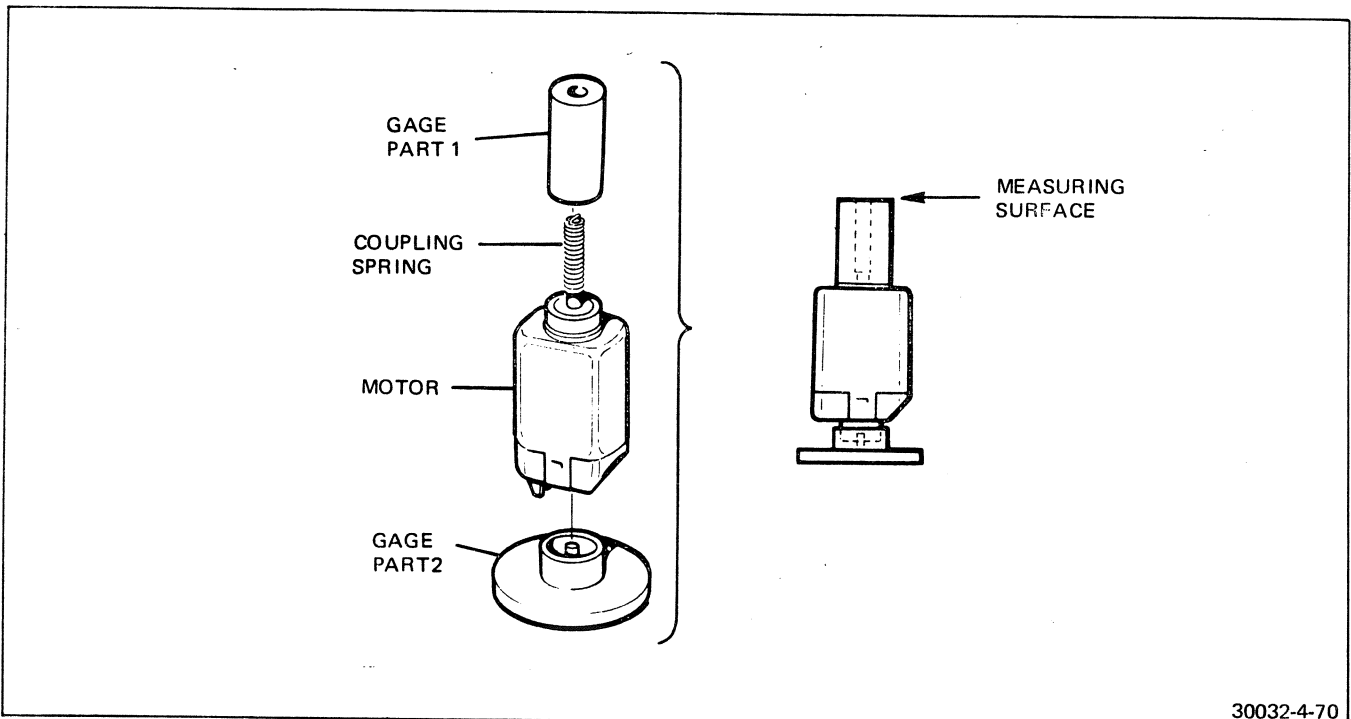

FIGURE 4-70 FLEX COUPLING GAGE
2. Before installing the motor, it is imperative that the coupling spring position be critically checked. Use the flex coupling gage (Special Tool #11679). Place the gage as shown on Figure 4-70. The end of the coupling spring should be flush with the end surface of the gage. If the spring extends beyond the gage, leave the motor on the bottom (support) end of the gage. Lift off the upper half of the gage and use a jeweler's screwdriver to move the spring further onto the shaft. If the spring does not reach the end of the gage, remove the gage and, using a jeweler's screwdriver, work the spring further from the motor flange.